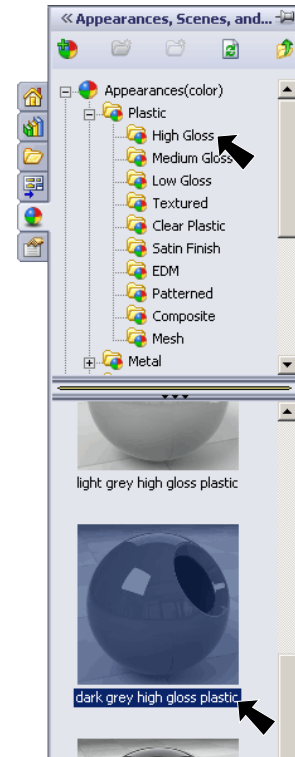

Fig. 25
Step 2. In the Appearances Task Pane, expand Plastic and click High Gloss, Fig. 25.
Step 3. In the lower pane click dark gray high gloss plastic, Fig. 25 and click OK  in the Property Manager.